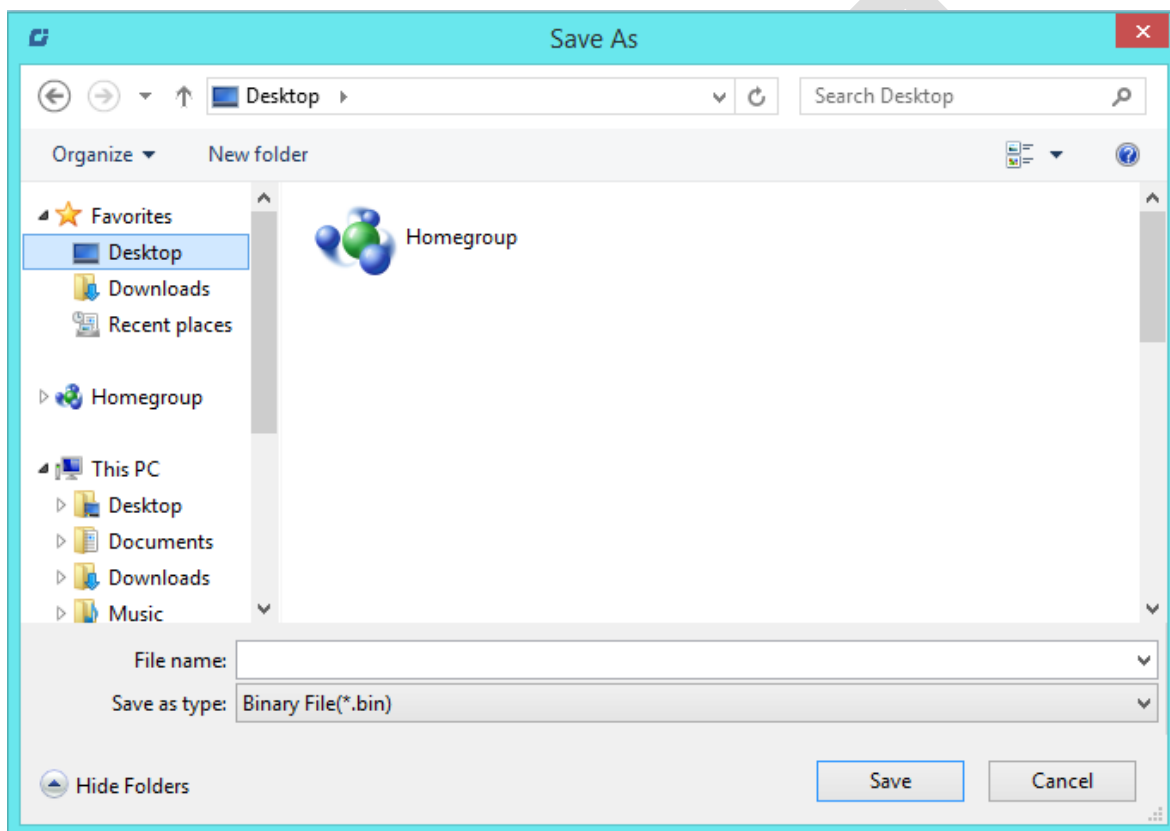

Fig 38: Displaying the Save As Window
Step 2: Navigate to the location where you want to store the calibration parameter details file (Refer to Fig 38).